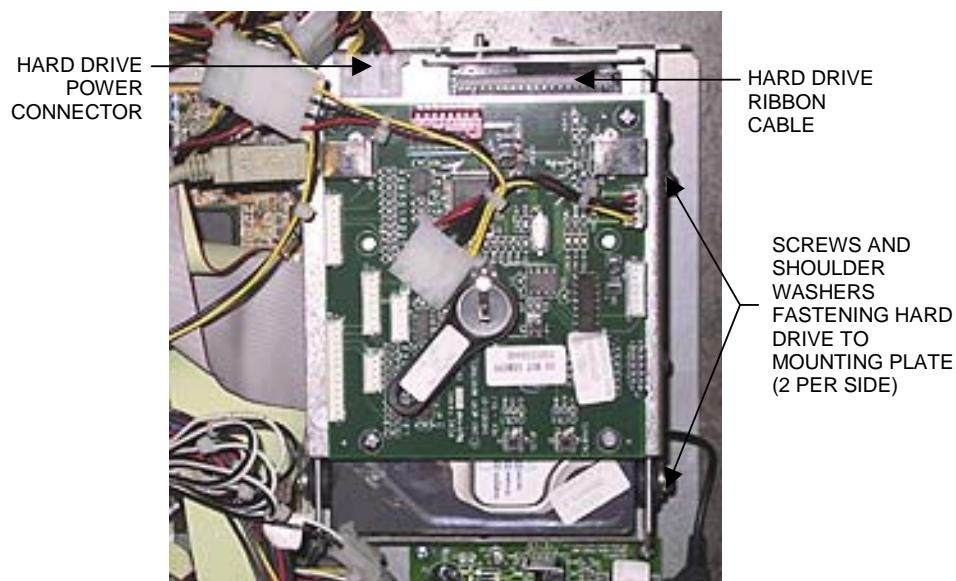

FIGURE 3 - CLOSEUP OF HARD DRIVE
6. Remove the 4 screws fastening the hard drive to the mounting plate. See Figure 3.